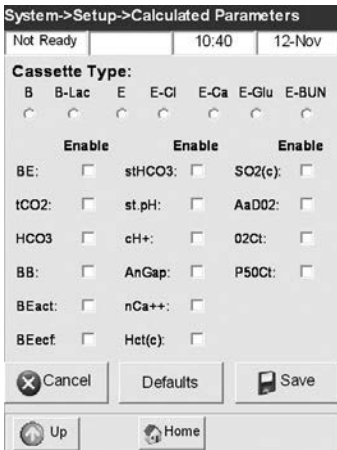

Fig. 3-20 Select Parameters
3. Select the cassette type (Fig. 3-20).